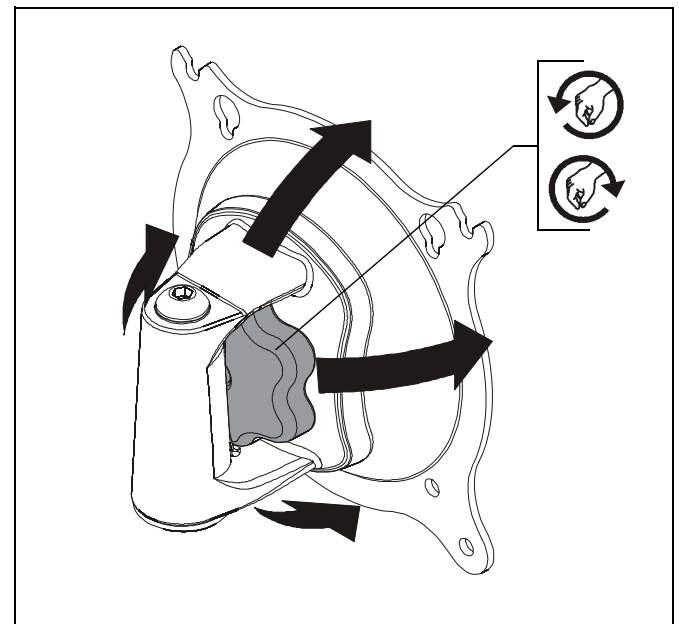

Figure 5
5. Turn adjustment knob, located on back of Centris cup, clockwise to increase tension or counter-clockwise to decrease. (See Figure 5)